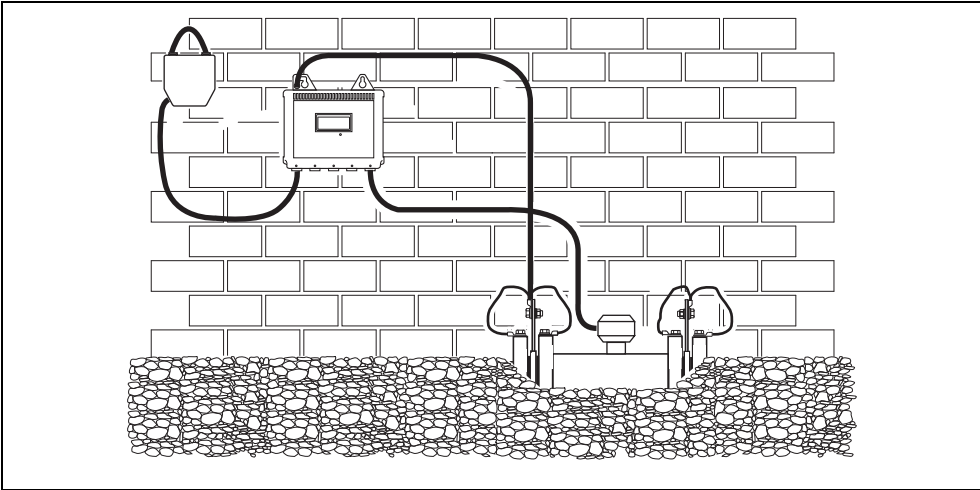
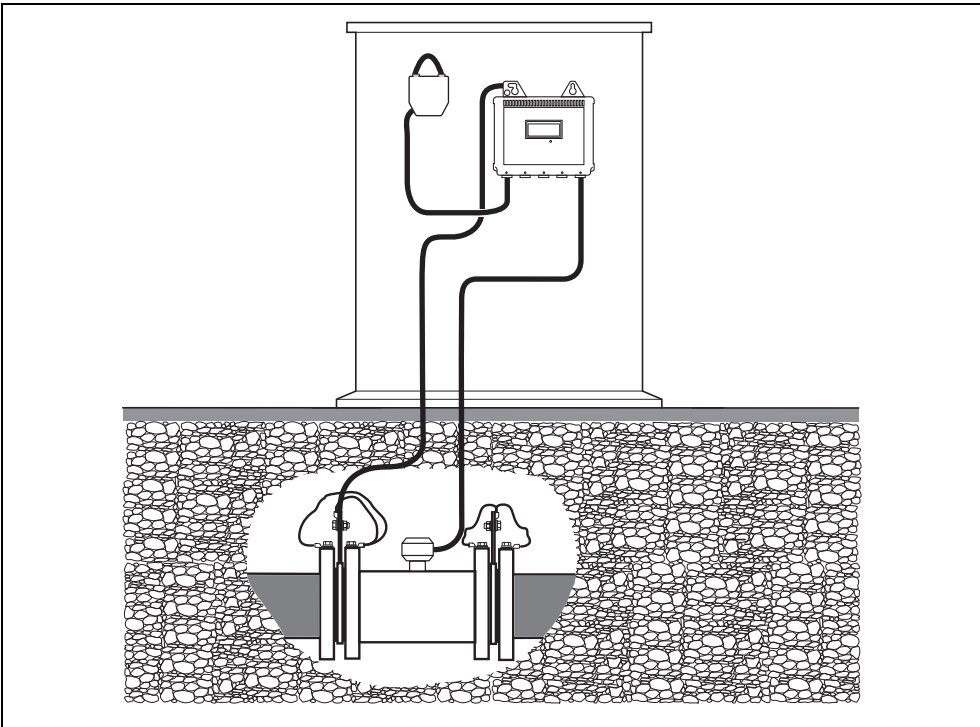

Fig. 3.2 AquaMaster 3 Transmitter Mounted in a Chamber (Battery Version Shown)
Fig. 3.3 AquaMaster 3 Transmitter Mounted in a Cabinet (Battery Version Shown)
- Connect the transmitter ground connection to the flowmeter body ground – see Fig. 3.2 and Fig. 3.3.